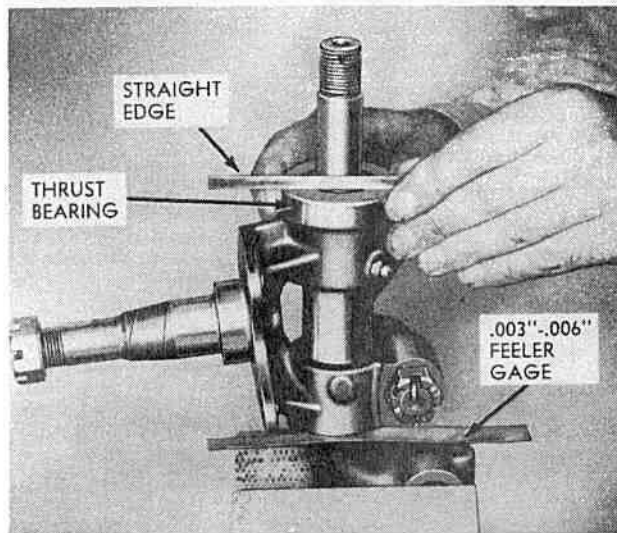

FIG. 198
**CHAMPION AND COMMANDER** Place the steering knuckle without the cork gasket on the king pin and install the shims and thrust bearing. Then insert a .003" to .006" (0,076 mm. to 0,150 mm.) feeler gage between the bottom shoulder of the king pin and the steering knuckle, press down on the thrust bearing, and place a straight-edge (small scale) across the upper surface of the thrust bearing. If the upper surface of the thrust bearing is not flush with the shoulder on the steering knuckle pin, remove the thrust bearing and add or remove shims as required (see Fig. 198).